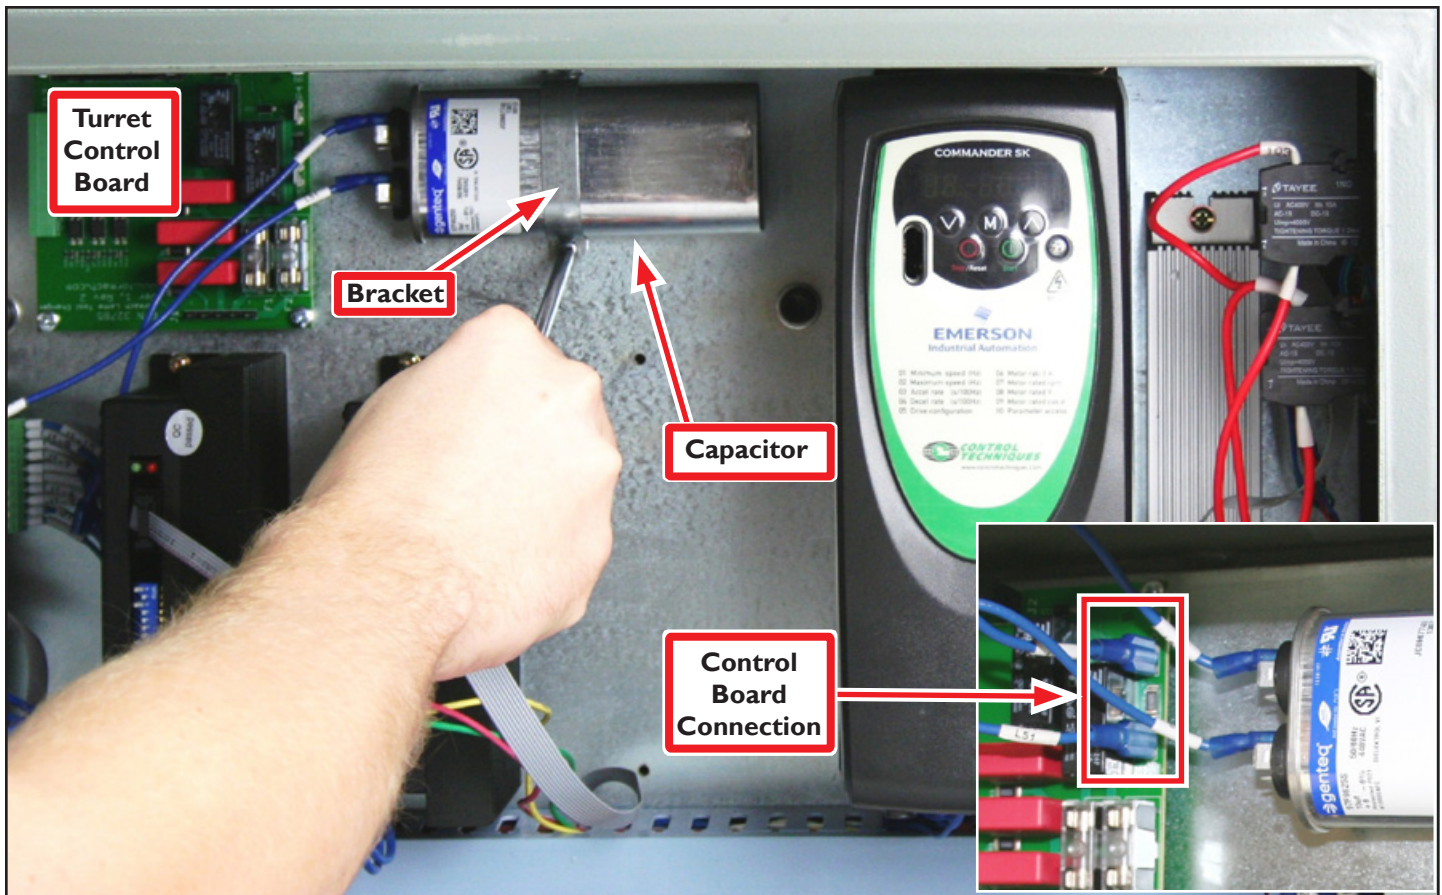

Figure 10
7. Locate and connect two ends of the turret capacitor wires (blue L51 and L52) to either terminal on the Capacitor (see **Figure 10**).
8. Using the Capacitor Bracket and two M4 x 10 mm Phillips Screws, attach the Capacitor to the back of the electrical panel (see **Figure 10**); holes are pre-drilled and tapped.
9. Connect the other two loose ends of turret capacitor wires (blue L51 and L52) to either P4 or P5 terminals on the Turret Control Board as shown in **Figure 10 inset**. The Capacitor is non-polar, so there is no wrong way to connect these.